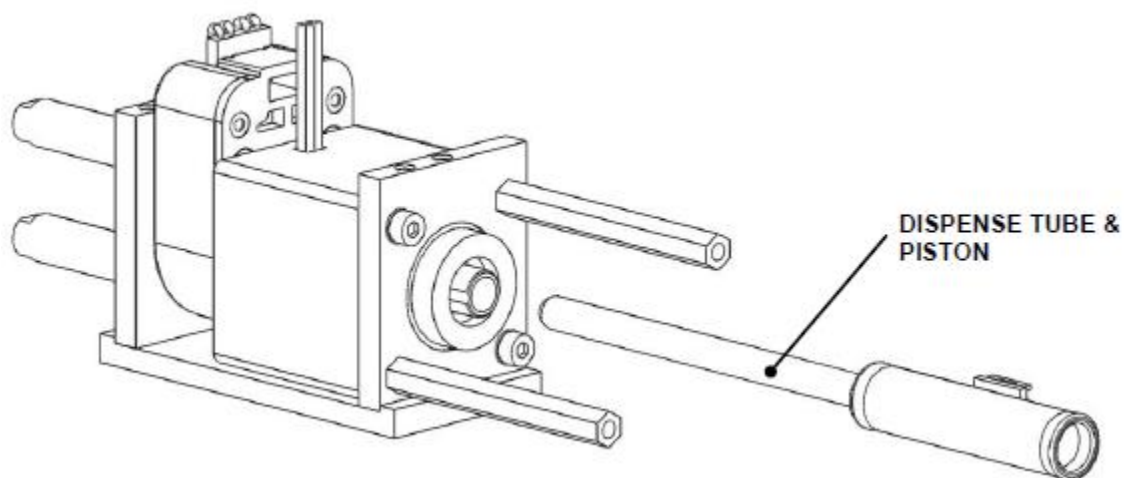

Figure U-26: Sliding the Dispense Tube assembled on the Dispense Piston through the Barrel Centre
9. Slide the Dispense Tube assembled on the Dispense Piston through the Barrel Centre and the body of the Linear Actuator till the Tube sits on the Seat Dispense Spring. (Figure U-26).